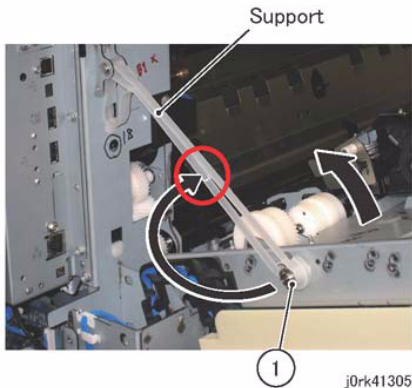

Figure 2 L/H Cover Assy at the Maintenance Position
5. The maintenance position is with the L/H Cover Assembly open. (Figure 2)